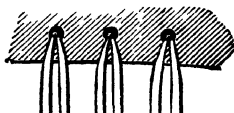
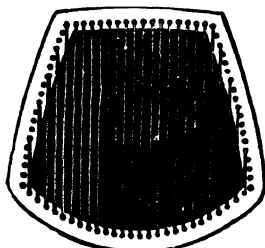

Fig. 55.
Fig. 56.
**Figs. 55 and 56.—Beginning Chair Caning : First Lines of Narrower Cane.**
knot (see Fig 55), follow the illustration (Fig 56), putting in the temporary pegs as the work proceeds, to prevent the cane from slipping Move the pegs at discretion Complete the design shown in Fig 56